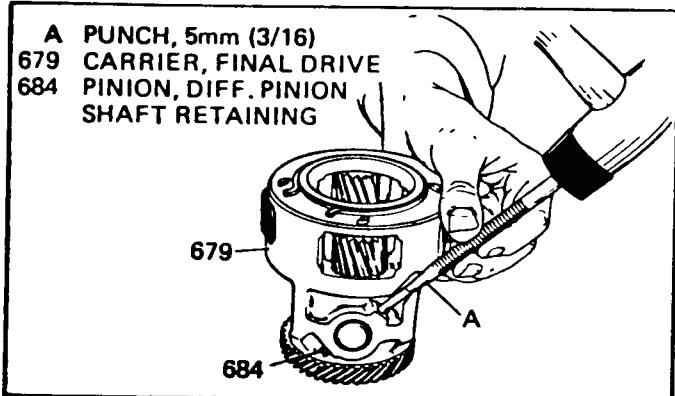

Figure 67
1. Remove retaining pin with a 3/16" pin punch as shown in Figure 67.
9. Install the retaining pin (Figure 67).